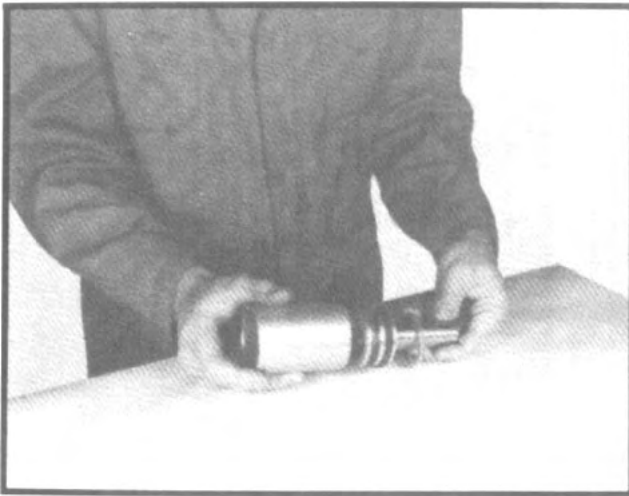

Fig. 18
4. Remove outer shift cylinder tube and outer piston as a unit. (See fig. 18.)